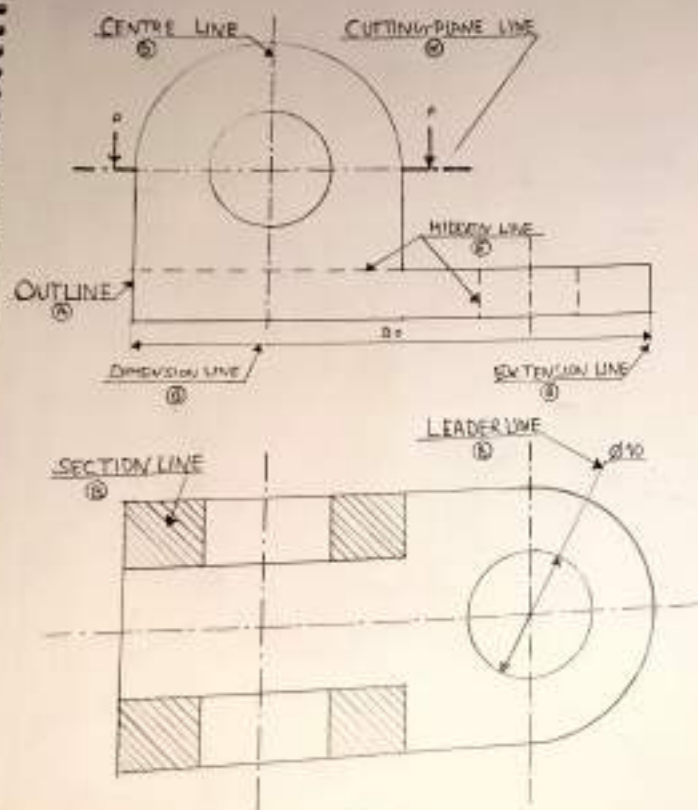
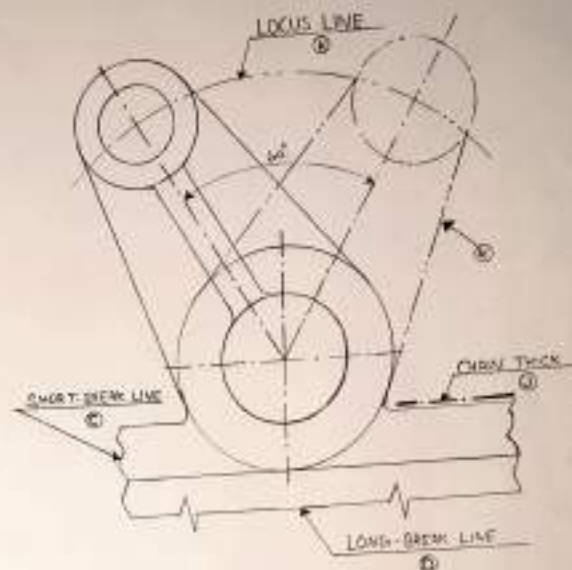

FIG. 3-2
FIG. 3-3
- (9) Short-break lines (C): These lines are continuous, thin and wavy. They are drawn freehand and are used to show a short break, or irregular boundaries (fig. 3-3).
- (10) Long-break lines (D): These lines are thin ruled lines with short zigzags within them. They are drawn to show long break (fig. 3-3).
- (11) Hidden or dotted lines (E or F): Interiors or hidden edges and surfaces are shown by hidden lines. They are also called dotted lines. They are of medium thickness and made up of short dashes of approximately equal lengths of about 2 mm spaced at equal distances of about 5 mm when a hidden line meets or intersects another hidden line or an outline, their point of intersection or meeting should be clearly shown (fig. 3-3).
- (12) Centre lines (G): Centre lines are drawn to indicate the axes of cylindrical, conical or spherical objects or details, and also to show the centres of circles and arcs. They are thin, long chain line composed of alternately long and dot spaced approximately 2 mm apart. The long dashes are about 9 to 12 mm. Centre lines should extend for a short distance beyond the outlines to which they refer. For the purpose of dimensioning or to correlate the views they may be extended as required. The point of intersection between two centre lines must always be indicated. Locus lines, extreme positions of movable parts and pitch circles are also shown by this type of line (fig. 3-2 and fig. 3-3).
- (13) Cutting-plane lines (H): The location of a cutting plane is shown by this line. It is a long, thin, chain line thick at ends only (fig. 3-2).
- (14) Chain thick (I): These lines are used to indicate special treatment on the surface.
- (15) Chain thick double-dots (J): This is a chain thin double-dot line.